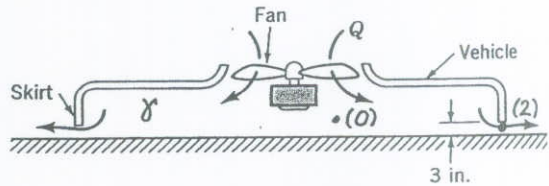

FIGURE P3.95
**3.95** An air cushion vehicle is supported by forcing air into the chamber created by a skirt around the periphery of the vehicle as shown in Fig. P3.95. The air escapes through the 3-in. clearance between the lower end of the skirt and the ground (or water). Assume the vehicle weighs 10,000 lb and is essentially rectangular in shape, 30 by 65 ft. The volume of the chamber is large enough so that the kinetic energy of the air within the chamber is negligible. Determine the flowrate,  $Q$ , needed to support the vehicle. If the